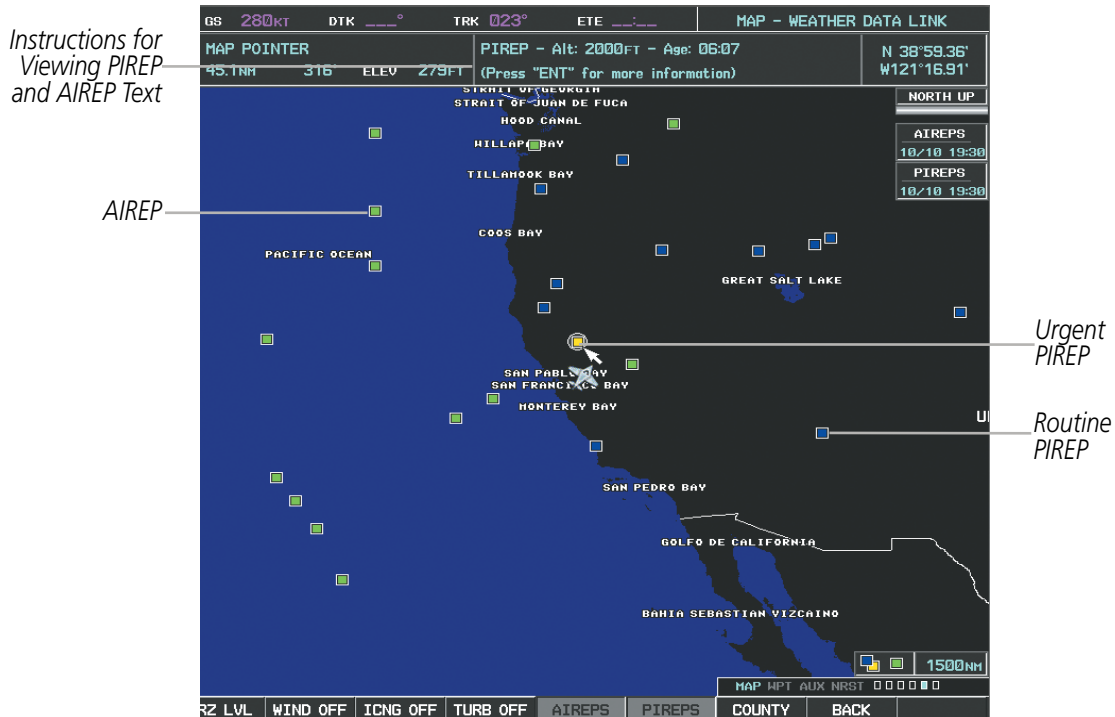

Figure 6-41 AIREPs and PIREPs on the Weather Data Link Page
Pilot Weather Reports (PIREPs) (Figure 6-41) provide timely weather information for a particular route of flight. When significant weather conditions are reported or forecast, Air Traffic Control (ATC) facilities are required to solicit PIREPs. A PIREP may contain unforecast adverse weather conditions, such as low in-flight visibility, icing conditions, wind shear, and turbulence. PIREPs are issued as either Routine (UA) or Urgent (UUA).